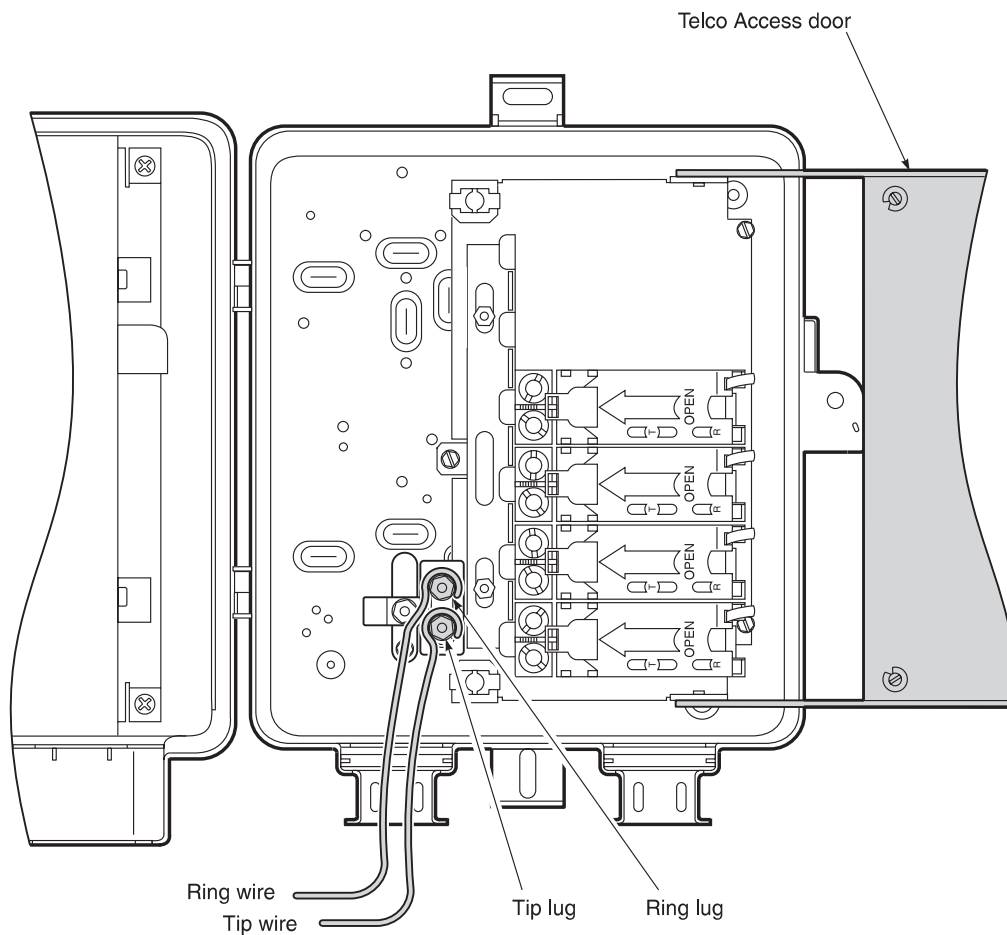

Figure 8. Attaching the HDSL Tip and Ring Wires
- 3 Loosen only the top nut on the Tip and Ring gas tube protection binding posts (Figure 8).